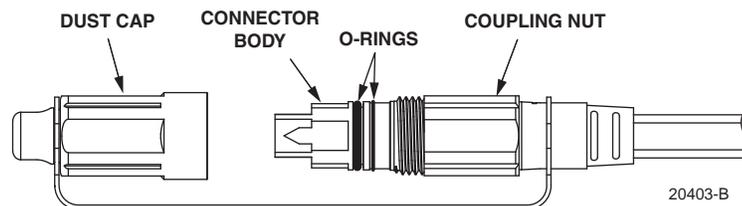

Figure 13. Drop Cable Connector Components
The basic components of the drop cable connector are shown in Figure 13. The dust cap threads onto the connector coupling nut. A pair of O-rings on the connector body provide a tight seal when the dust cap is in place. A pulling eye is provided in the end of the dust cap for pulling the drop cable through conduit.
1. Unscrew the dust cap from the drop cable connector (see Figure 13).
6. Thread the drop cable dust cap onto the drop cable connector coupling nut and tighten until finger tight (see Figure 13).